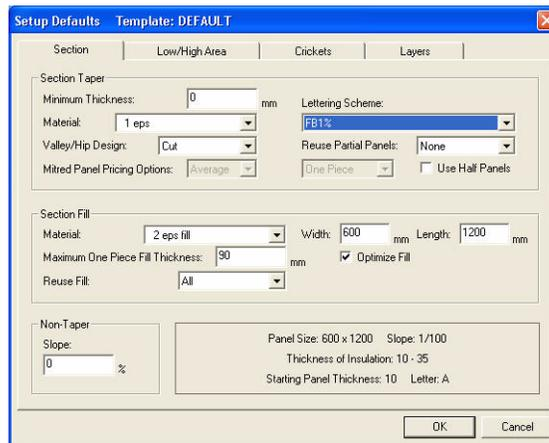
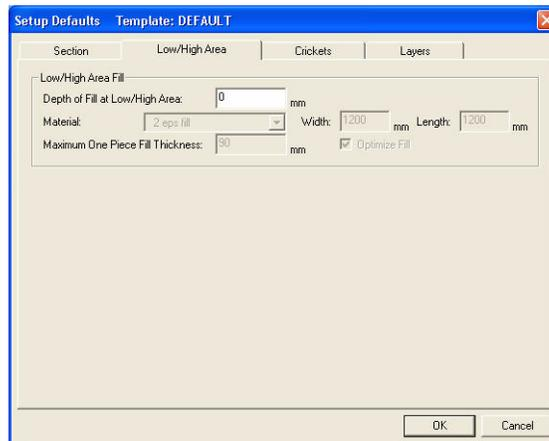
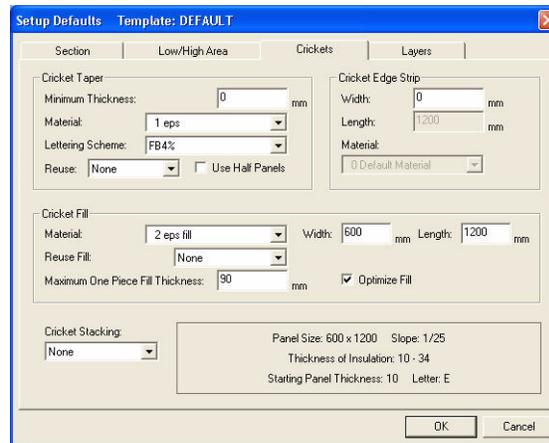
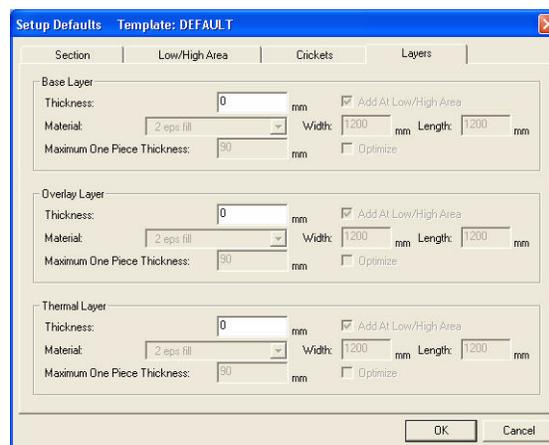

Figure 1-2 The Section tab of the Setup Defaults dialogue box.
Figure 1-3 The Low/High Area tab of the Setup Defaults dialogue box
Figure 1-4 The Crickets tab of the Setup Defaults dialog box
Figure 1-5 The Layers tab of the Setup Defaults dialog box
4. Edit the options in each tab of the dialogue box so that they match the dialogue box illustrated in Figure 1-2, Figure 1-3, Figure 1-4, and Figure 1-5.